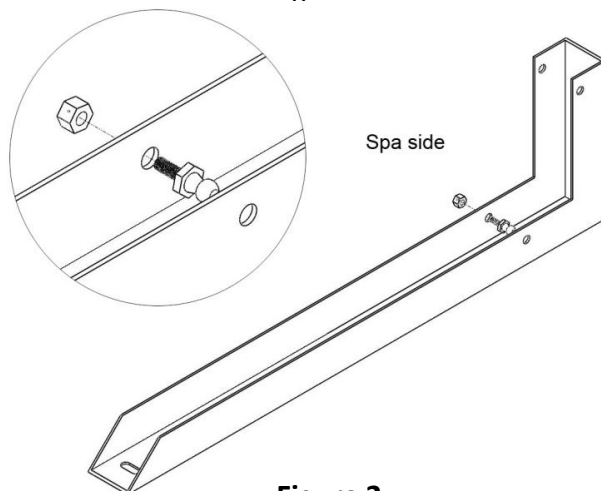

Figure 2
2. Attach Ball Studs (cvB) to both Channel Brackets (cvBB) with Lock Nuts (cvF). The rounded side of Ball Stud (cvB) should be on the inside of the Channel Bracket (cvBB), repeat this for each side of the spa. Ensure the Ball Stud (cvB) is facing the correct direction. See Fig 2.